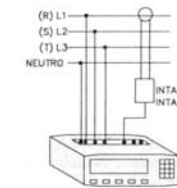

Fig 3.6.3
3) Connect the interface to the instrument, always ensuring that voltage and current inputs correspond (Fig. 3.6.3.)